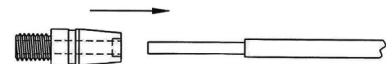

Fig. 2A End Ferrule Repair
5. Apply drop of adhesive to fiberglass core end (in case of a splice, do one end at a time as in Fig. 2A) and spread over core with toothpick or nail.
6. Twist ferrule as you insert rod (Fig. 2A and 2B). Clean off excess glue. Return unused materials to kit.